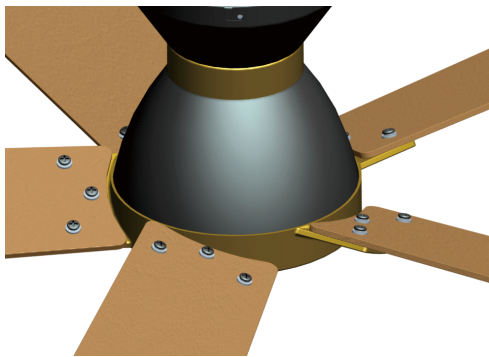

Fig 7.2
7.2 Five blades are installed as shown in Fig 7.2.